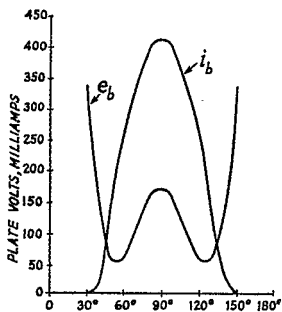
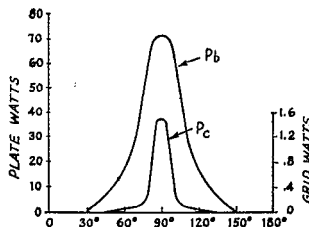

Fig. 5 — Curves plotted from the data of Table I.
Fig. 6 — Curves showing relative values of instantaneous grid and plate dissipation.
The power dissipated at the plate is the average plate current times the average plate voltage when the tube is conducting. In Fig. 5 we have plotted the shape of the plate current and plate voltage (voltage from plate to ground) from values taken from Table I. The instantaneous power dissipated at the plate is the product of the two curves and is plotted separately in Fig. 6. About the easiest way to find the average power is to count up the squares under the curve and divide by the length of the base line. This gives the average power over 180 degrees, and we divide by 2 to get the average over 360 degrees. We have 63 spaces and the base is 18 spaces long, so the average over 180 degrees is 3.5 spaces high, so the average power is 17.5 watts or, over 360 degrees it is 8.75 watts.
We haven't considered the grid power yet. Fig. 6 shows the curve of grid power — not the power wasted in the bias supply — for the operating range. The instantaneous values of grid voltage and current are shown in Table II. The results are $I_{av} = 10.8$ ma., power dissipated in the grid = 0.057 watt, driving power = (80) (0.0108) = 0.865 watt. Any old oscillator you pick out will supply this "flea-power."